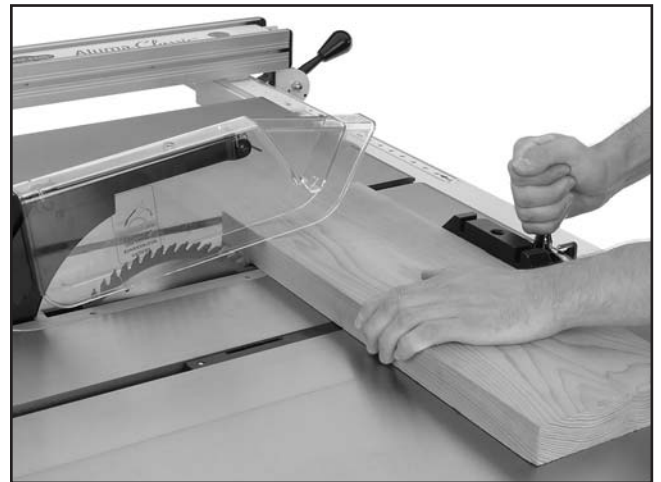

Figure 24. Crosscutting operation.
6. Hold the workpiece firmly against the face of the miter gauge and ease it into the blade as shown in **Figure 24**.